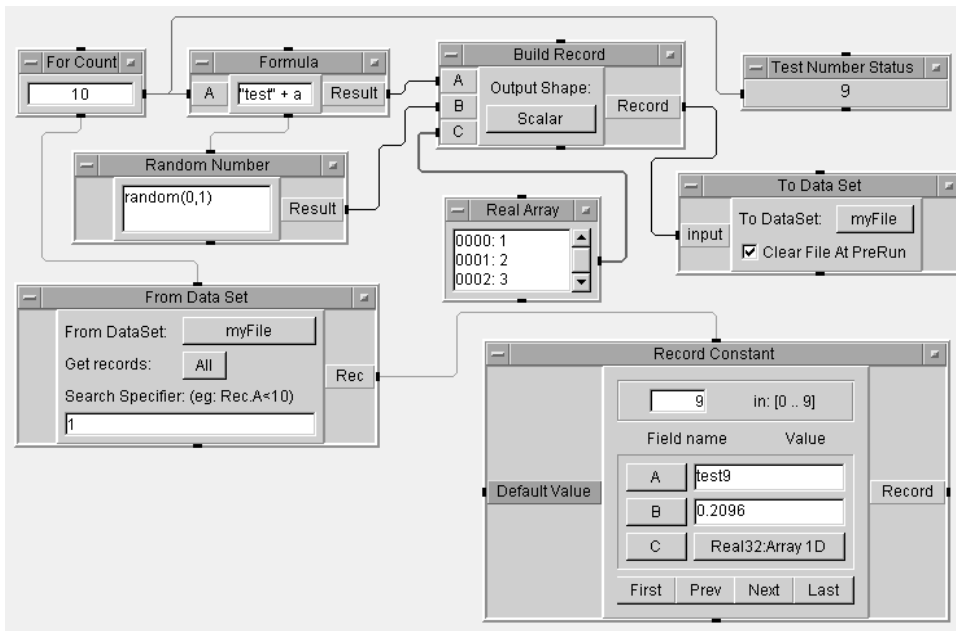

Figure 8.2. Storing and retrieving data using Data Sets
Note 2: A dashed line will appear between the two objects. This dashed line indicates a control line. See Figure 8.2.
40. Run this program; try to follow the “ping” square as VEE progresses through the program execution; watch the Test Number Status display. (If you have not done this earlier, then expand the Record Constant object to show its three input pins: A, B, and C, its Field name, and each Value as shown in Figure 8.2.)